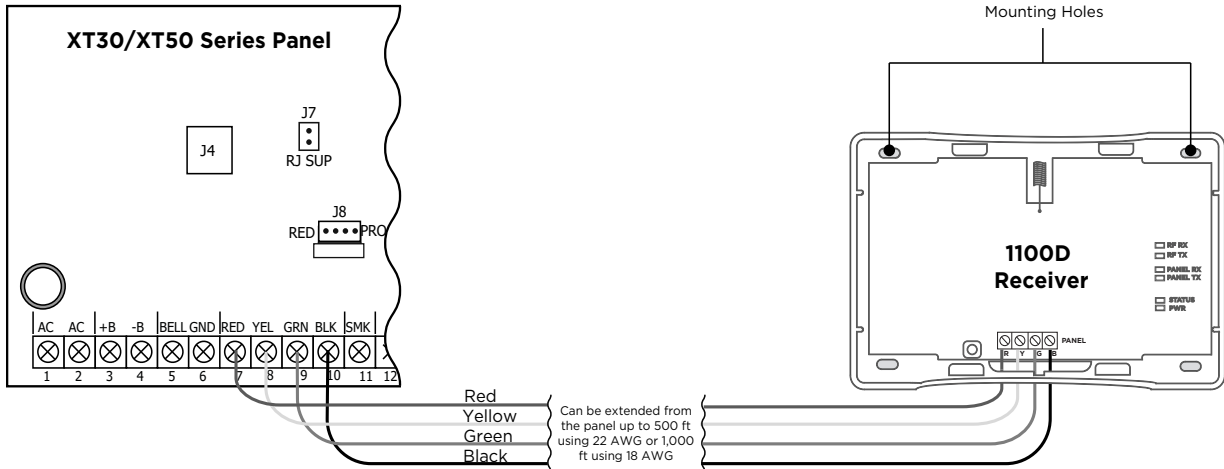

Figure 2: Wiring the 1100D to the Panel
2. Connect the other end of the wires to the terminals 7, 8, 9, and 10 on the panel. See Figure 2
3. Use the included #6 screws to secure the 1100D to the wall. See Figure 2 for mounting hole locations.
The six labeled LEDs on the 1100D PCB display wireless receiver operation and activity. See Figure 2 for LED locations and Table 1 for LED indications.